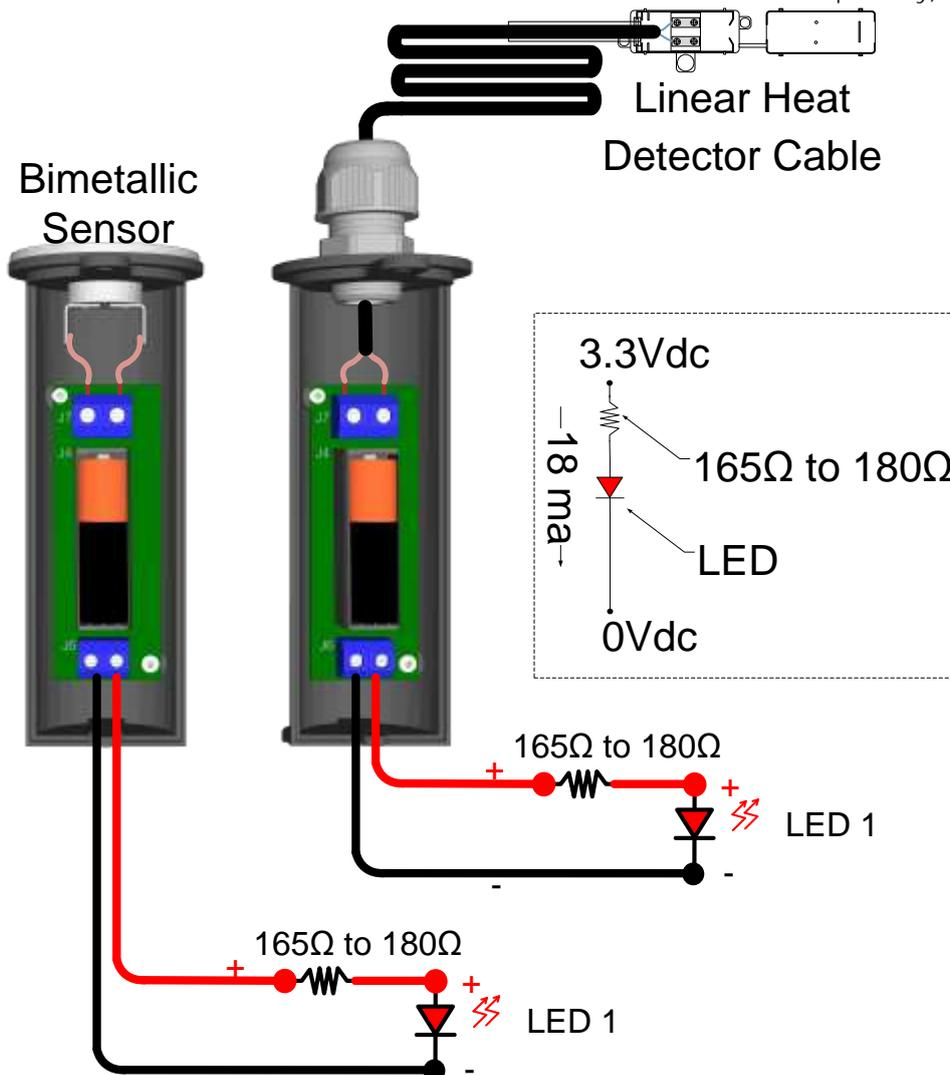

Figure 16: Typical connection of the simulation LED
Step 2: Connect the simulation LED circuit as described in figure 16.